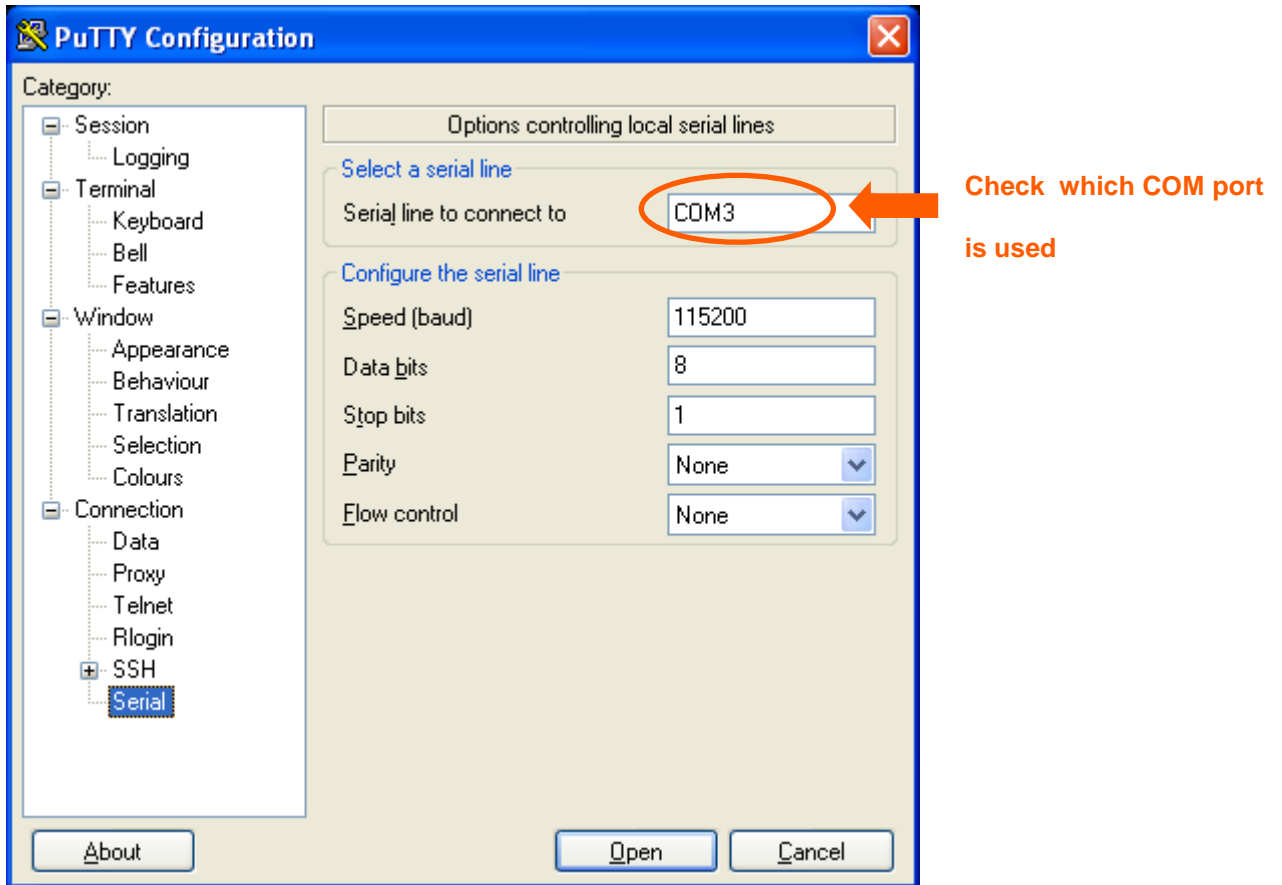
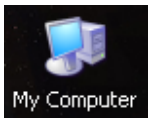
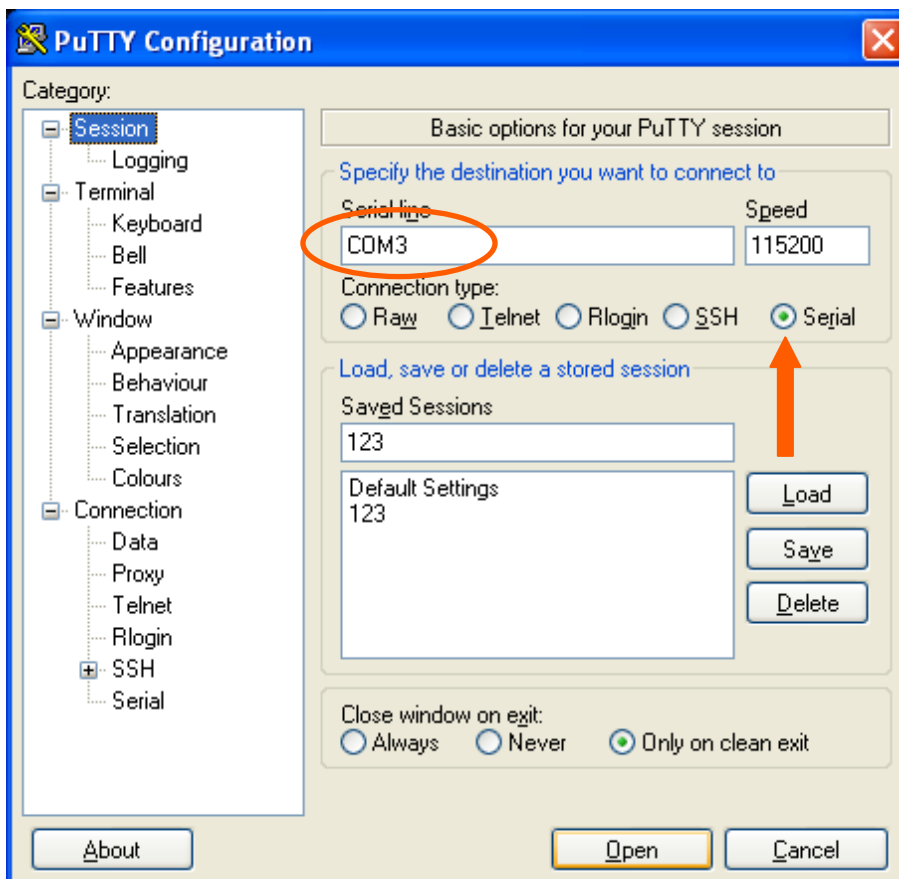

Figure 14: Settings
Figure 15: Right click on “My Computer” and select Properties
Figure 18: check if serial is selected and then select open
Start PuTTY (a free telnet/ ssh client) on your computer and make sure the “Options controlling local serial lines” are as in Figure 14:
For computers running a Windows Operating System, more steps (see Figure 15 to Figure 18) might be required in order to check which serial line is used (see orange circle in Figure 14):
- Go to Session and check if “specify the destination you want to connect to “ is on Serial (See Figure 18)